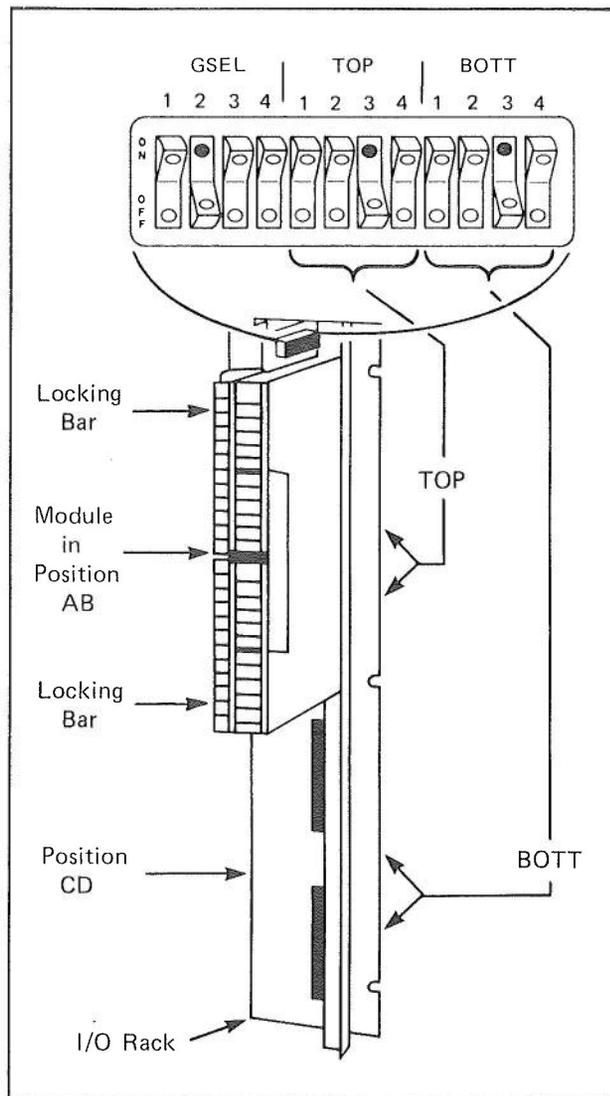

Figure 5 — Vertical I/O Rack Switches
**Step 2** — Refer to system drawings and determine in which I/O Rack and in which Position in the Rack the Module is to be placed. (Although a Module can be placed in either the upper two Positions or the lower two Positions, it may not straddle Positions B and C. (See Figure 5.)
**Step 4** — Move the appropriate Locking Bars on the I/O Rack's built-in terminal blocks to the left in order to uncover the guide slots on the blocks. (See Figures 5 and 12.)